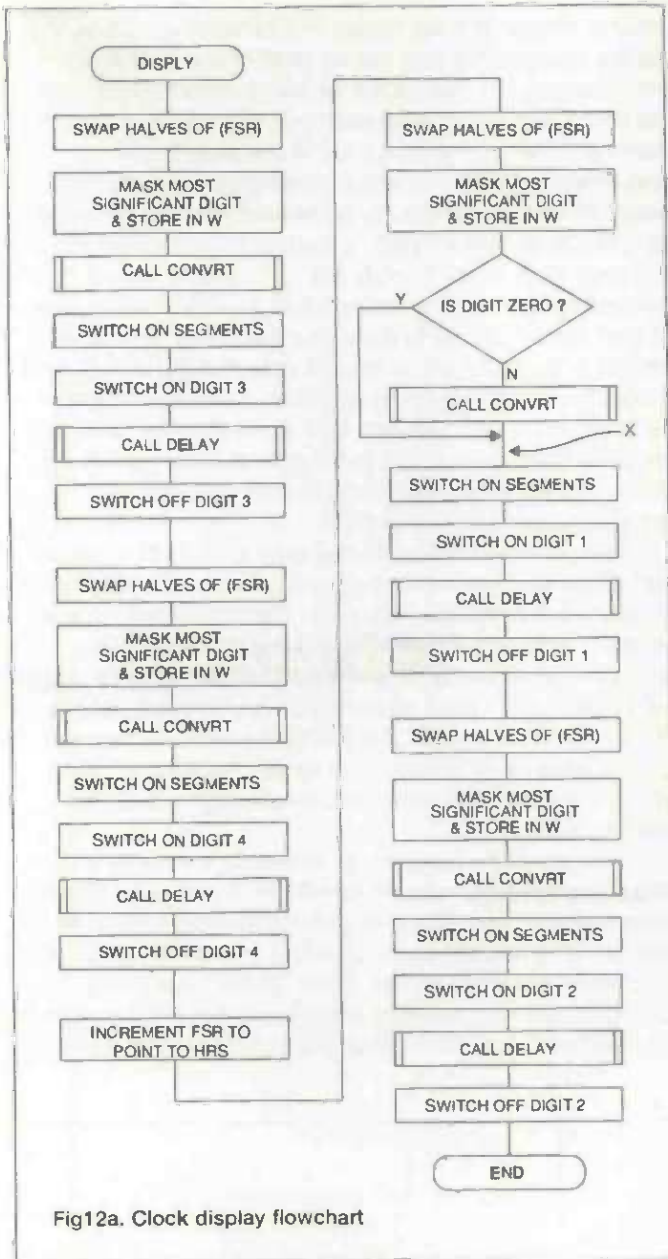

Fig12a. Clock display flowchart
must go high to switch off that digit before the segment drives are changed for the next digit to be displayed. A flowchart for this subroutine is shown in FIG. 12a.
Following the flowchart of FIG. 12a and beginning with the register pointed to by FSR (which is MINCTR and which at the moment contains 0011 0100 or 34h), the contents of this register are swapped to give 0100 0011 (or 43h) and then the most significant digit is masked by ANDing it with 0000 1111 (0Fh) to give 0000 0011 (03) which results in the first digit of MINCTR being stored in W while leaving the contents of the MINCTR register itself unchanged at 43h. To display this number on the LED display, it must first be converted to a 7-segment code for energising the LEDs. This is done in a separate subroutine called CONVRT, which is basically a "look-up" table which returns from the subroutine with the appropriate bits high to display a digit (in this case "3") in the W register which is then moved to port B switching on the segments. The digit drive is then switched low (output pins high if NPN driver transistors are used) and then the delay subroutine DLY is